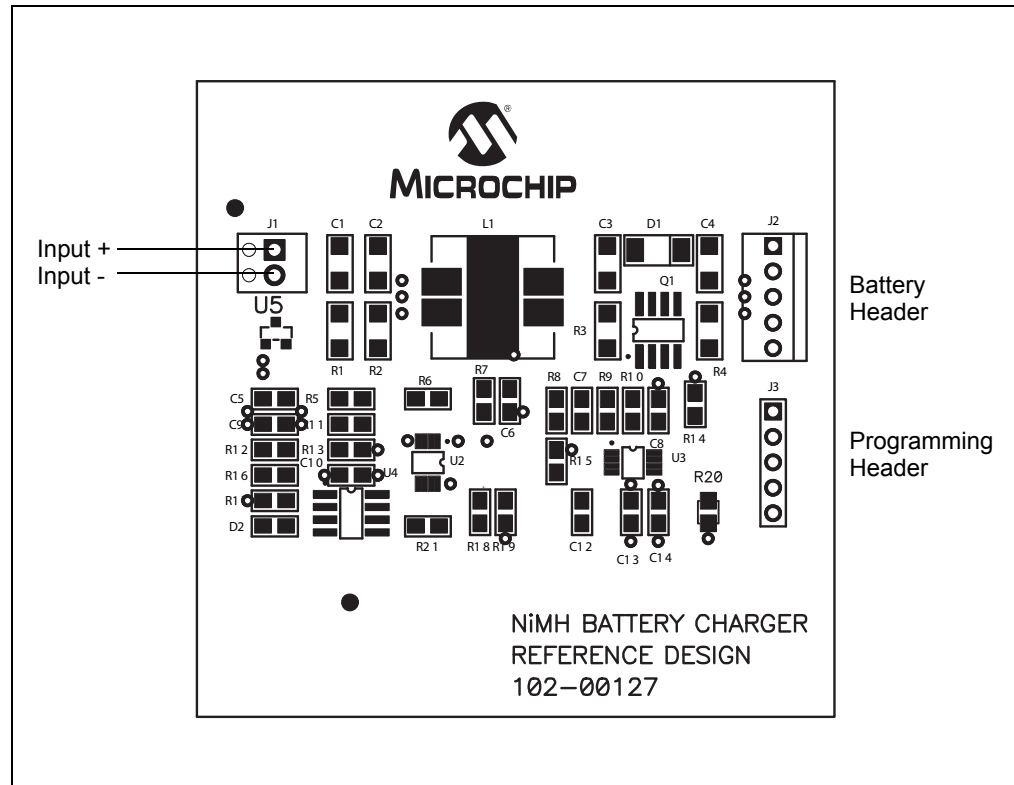

FIGURE 2-2: Setup Configuration Diagram.
2. Connect the positive side of the input source (+) to pin 1 of J1. Connect the negative or return side (-) of the input source to pin 2 of J1. Refer to Figure 2-2.